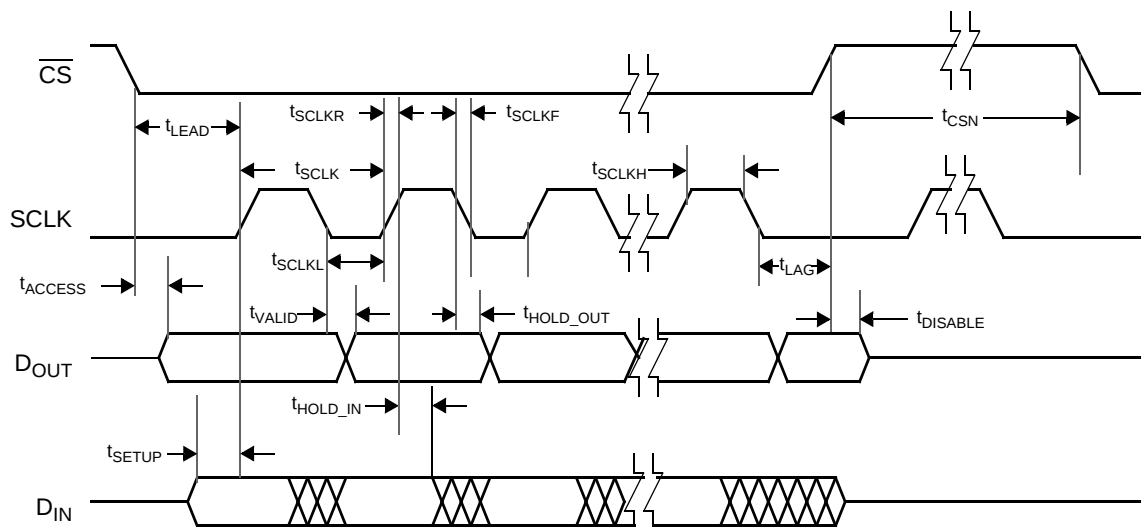

Figure 7. Serial Interface Timing
| 186 | Serial Interface Timing (See Figure 7, $C_{DOUT} \leq 80$ pF, $R_{DOUT} \geq 10$ k $\Omega$ )                            | $t_{SCLK}$             | 320  | —                 | —    | ns      | (9) |